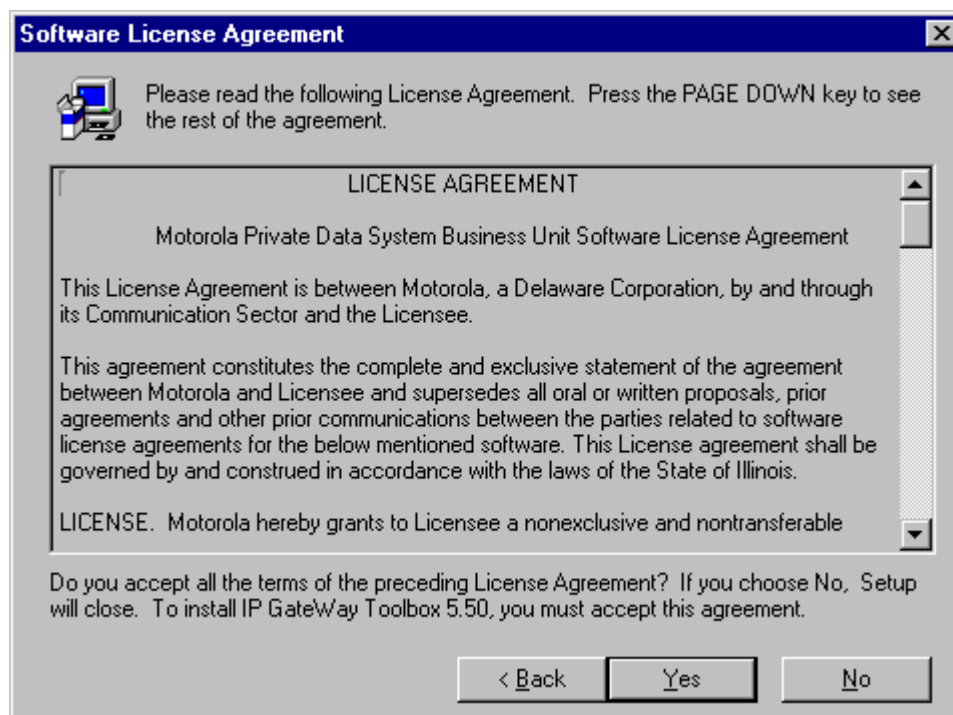

Figure 4-3: Software License Agreement screen
- The Install Wizard displays the Software License Agreement (see Figure 4-3). Please read the text in this screen carefully, then click **YES** if you want to accept the license agreement and continue with the installation.